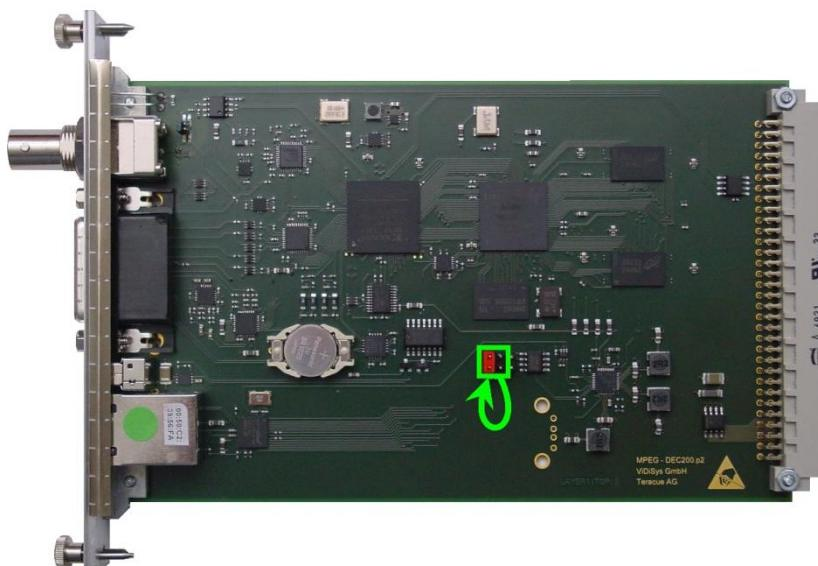

Figure 34: DEC-300™ Blade
- Hold the blade as shown in Figure 34, with the video input pointing to the left.
- Place the jumper now on the left pair of the green pins, see Figure 34.